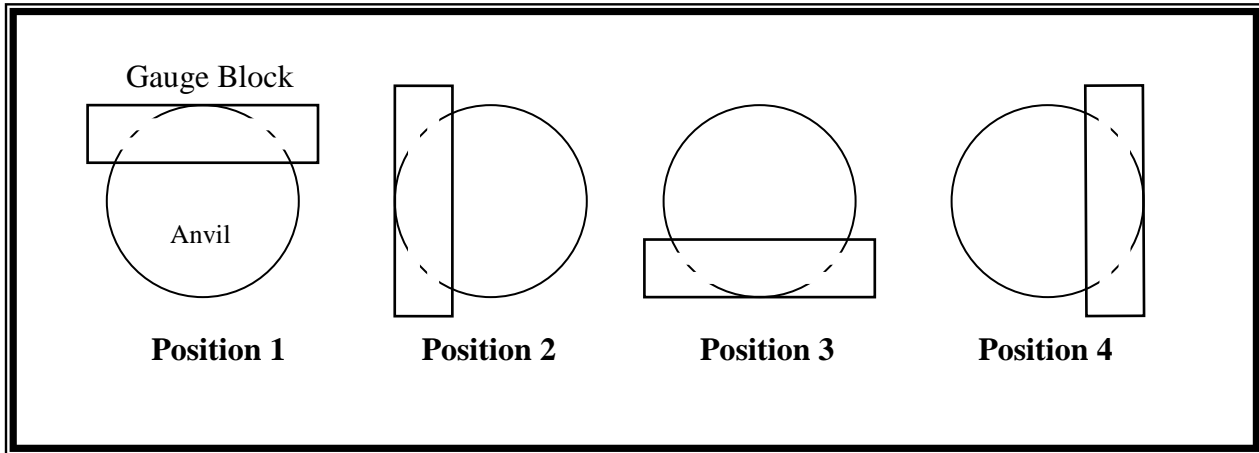

Figure 4 - Anvil Calibration Positions
5. Place the 40-mil gauge block on the Anvil in position 1. (See Figure 4)
8. Repeat steps 5, 6, and 7, making sure to move the 40 mil gauge block to the next sequence position as shown in Figure 4.
10. Use an Allen wrench to adjust the support leveling bolts on the bottom of the base plate until the Anvil is parallel to the Presser Foot. (See Figure 4 – Anvil Calibration Positions)